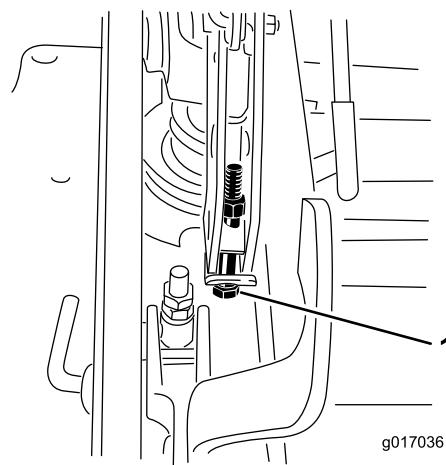

Figure 94
13. If the deck is too low, tighten the single point adjustment bolt by rotating it clockwise. If the deck is too high, loosen the single point adjustment bolt by rotating it counterclockwise (Figure 94).